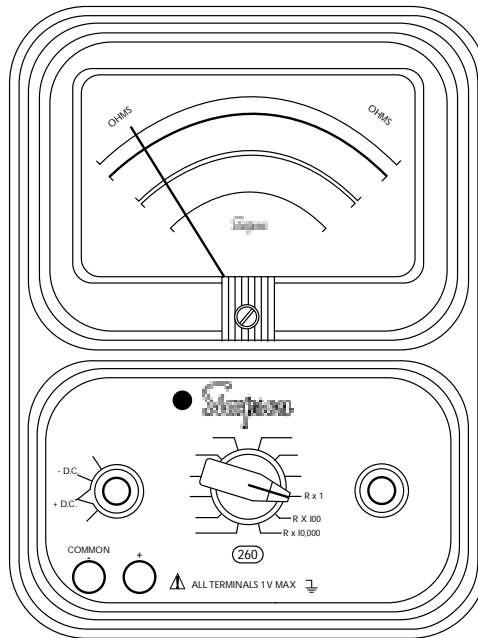

Figure 4-12. Jacks and Switch Positions for Measuring Resistance
- b. Set the range switch to one of the resistance range positions as follows (Figure 4-12):